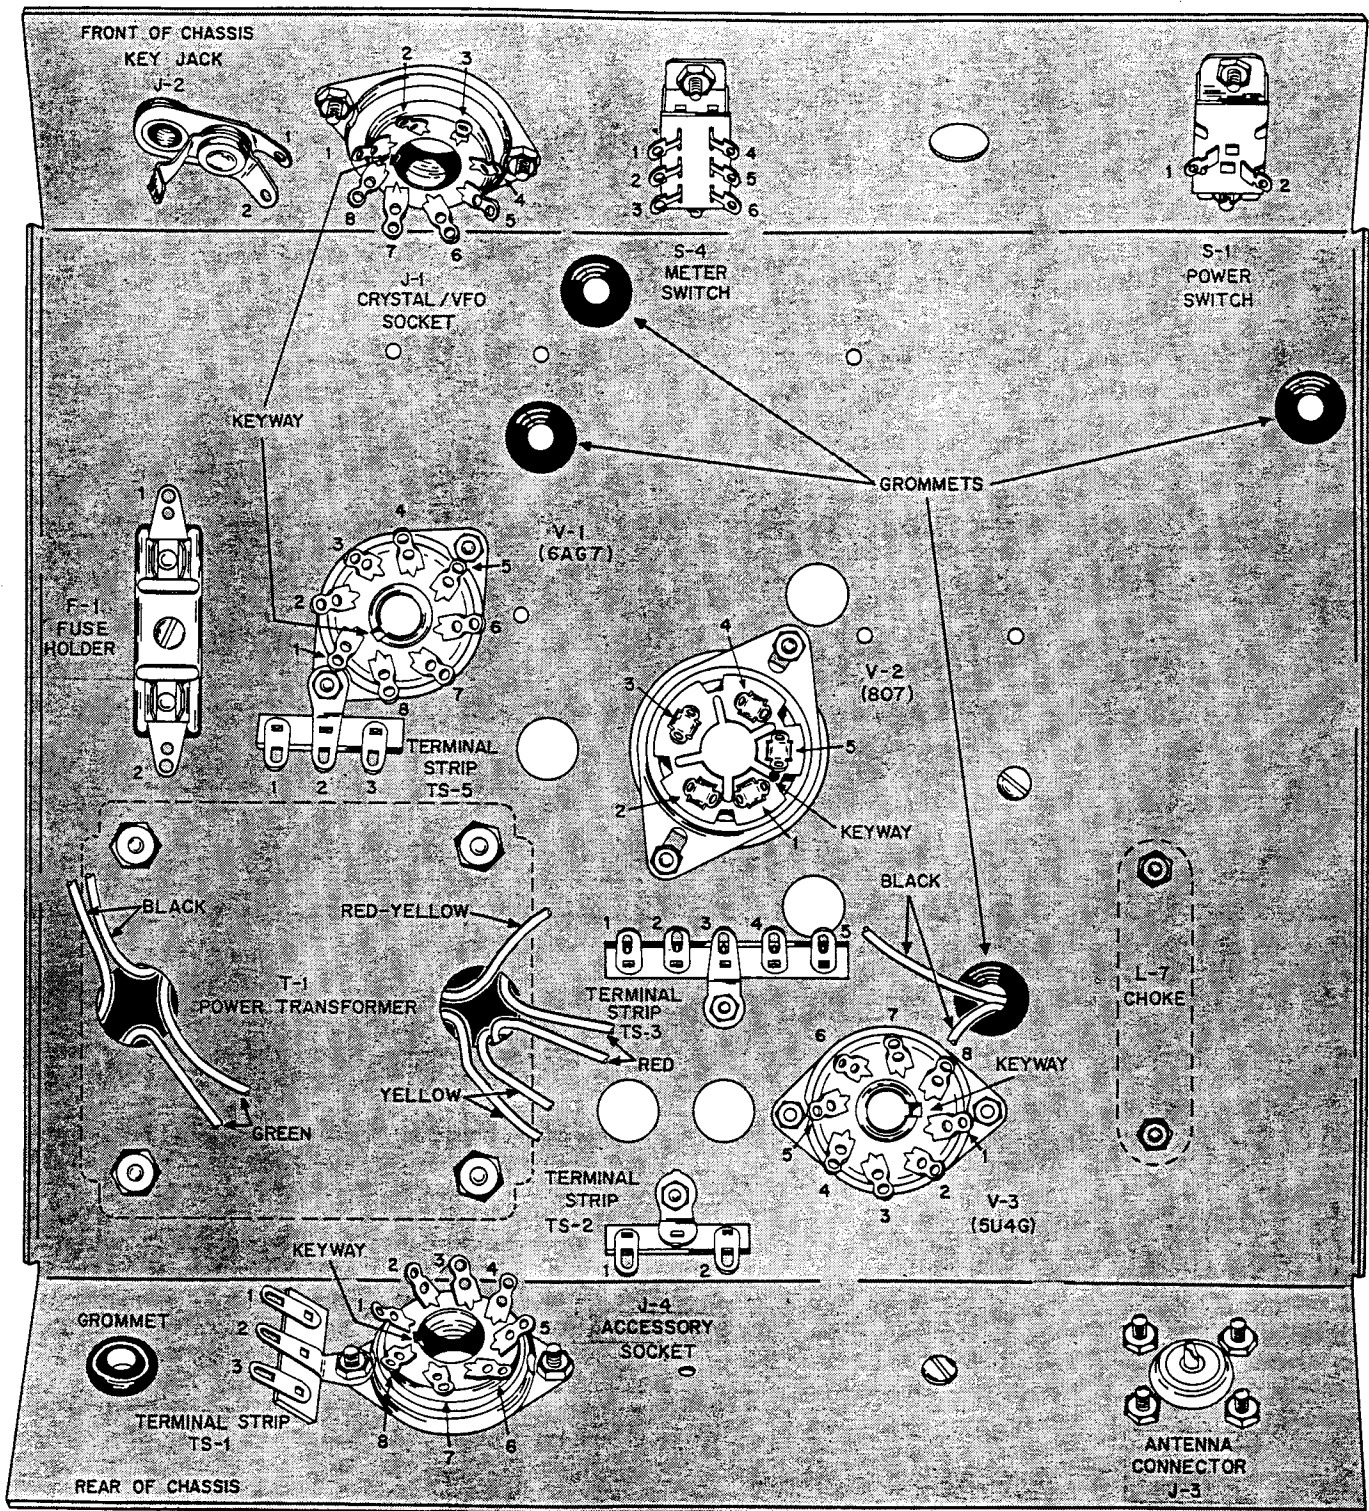

FIGURE 1. MOUNTING THE PARTS UNDERNEATH THE CHASSIS
SEE FIGURE 1.
- ☐ Insert a rubber grommet in each of the five holes marked "GROMMET" on Figure 1. Grommets are installed by squeezing them into place.
- ☐ T-1 is the large transformer. Referring to Figure 1, locate the position in which T-1 is mounted on top of the chassis. Begin mounting T-1 by pushing the two green and two black wires through the large hole near the corner of the chassis. Push the two yellow, two red and the red-yellow wires through the other hole. Fasten T-1 with four 8-32x $\frac{1}{4}$ " screws through the top of the chassis; put a lockwasher on each screw before tightening the nuts.
- ☐ Referring to Figure 1, locate the position for mounting L-7, the filter choke, on top of the chassis. The side with the wires must be toward the grommet. Fasten L-7 with two 6-32x $\frac{1}{4}$ " screws, lockwashers, and nuts. Push the two wires through the grommet.
- ☐ Mount J-2, a phone jack, in the round hole next to J-1. Use a $\frac{3}{8}$ " hex nut to retain J-2. Position the terminals as shown in Figure 1.